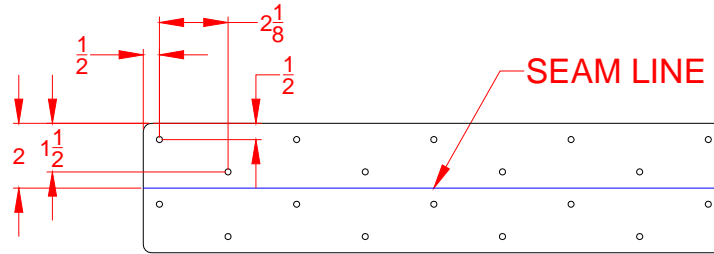

Figure 3
- 16) Drill 3/16" holes in the doubler plates in a similar pattern to that shown in Figure 3.